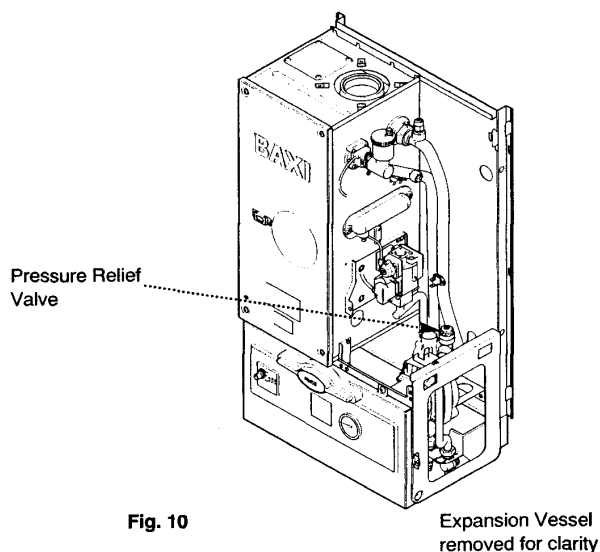

Fig. 10
6.8 Pressure Relief Valve (Figs. 10 & 11)